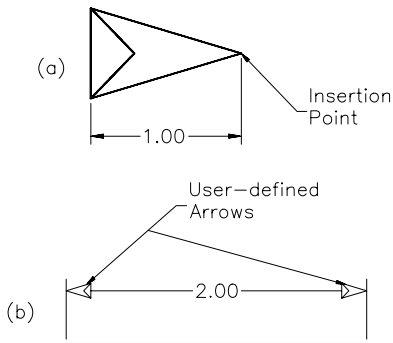

Figure 10-12 Creating user-defined arrows
1. To create a block for an arrowhead, you will use a 1 X 1 box, refer to Figure 10-12. AutoCAD automatically scales the X and Y scale factors of the block to the arrowhead size multiplied by the overall scale. You can specify the arrow size in the **Arrow size** spinner. The **DIMASZ** variable controls the length of the arrowhead. For example, if **DIMASZ** is set to 0.25, the length of the arrow will be 0.25 units. Also, if the length of the arrow is not 1 unit, it will leave a gap between the dimension line and the arrowhead block.
3. The insertion point of the arrowhead block must be the point that will coincide with the extension line, see Figure 10-12.